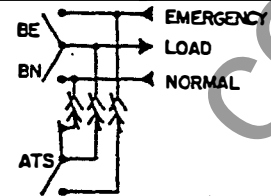

FIG. 1 BP IS OPEN WITH ATS IN NORMAL POSITION.
1. Manually operated Bypass Switch contacts (BN/BE) are open and the ATS is supplying the load. (Fig. 1).
2. Disconnect Switch (DS) is in "Auto" position.
11. ATS now fully automatic (Fig. 1).